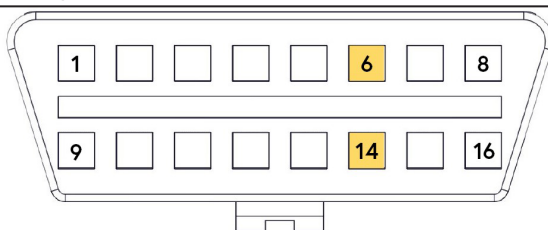

Figure 56 — OBD II connector
- ☐ Splice the light blue wire from the throttle control to the brown wire at pin 6 of the OBD II port (Figure 56).
- ☐ Splice the grey wire from the throttle control to the yellow wire at pin 14 of the OBD II port (Figure 56).